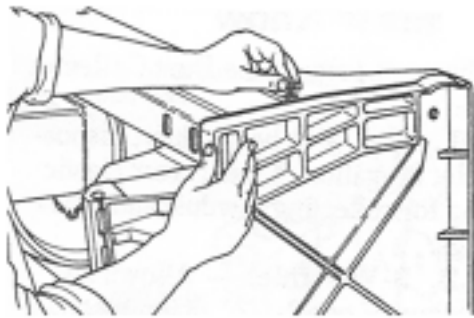

Figure 6: With the housing on its side, position the base pan so the straight side faces towards the front.
4. With the main housing and assembled legs still on its side, position the base pan (47) between the legs, so that the straight, open side faces toward the front (the side with the 3-way inlet). (See Figure 6).